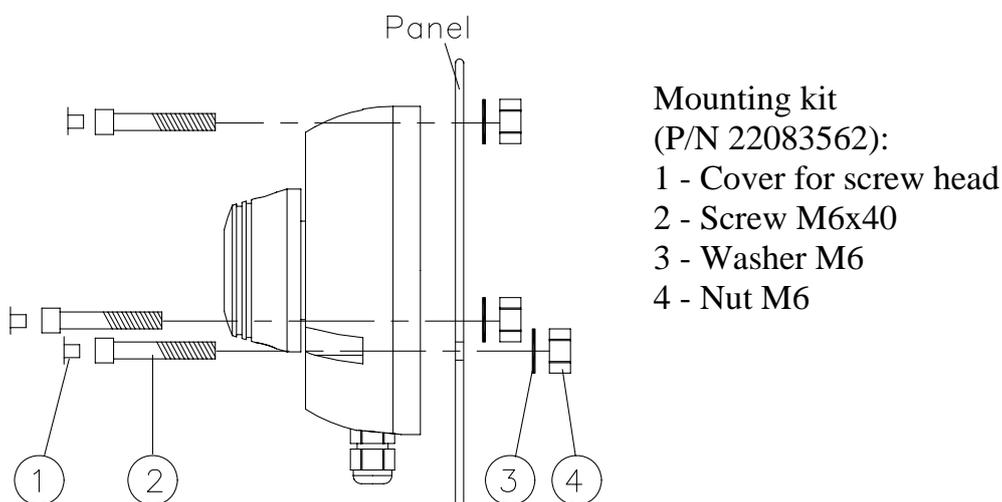

Figure 3-1 Mounting
The unit is mounted to bulkhead or panel by three Allen screws (2) from the front. See Figure 3-1. The head of the screws may be covered with the three enclosed caps (1).